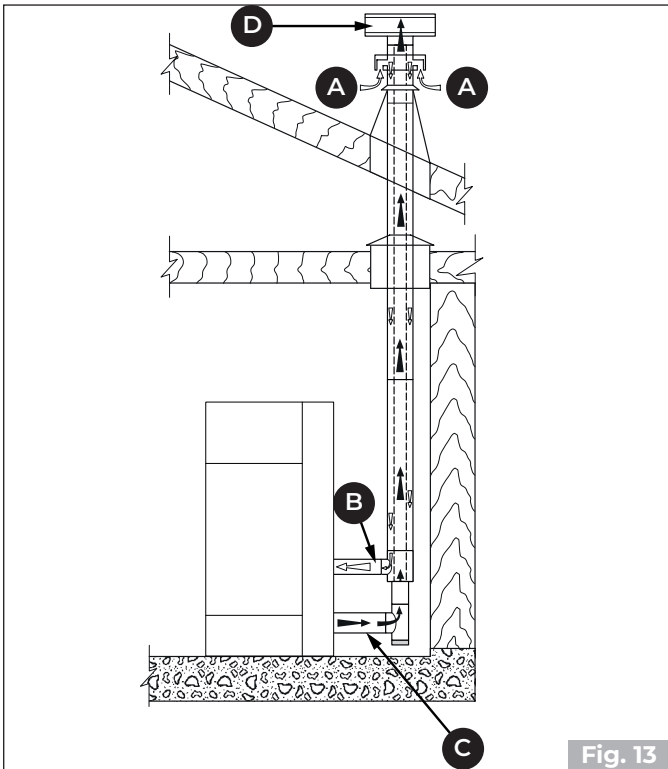

Fig. 13
- to channel the combustion air using a coaxial pipe to expel the flue gases and extract the air (“Fig. 11” “Fig. 13”- **A, B** = Air inlet, **C, D** = Flue gas outlet); in this case it is not necessary to create a classic air intake in the room.